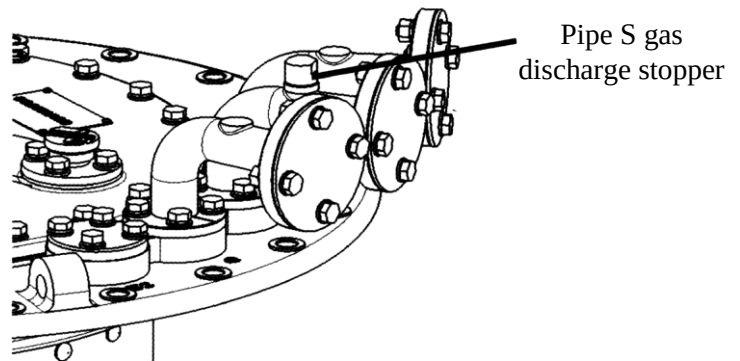

Figure 59 Remove the bolt cap
- 1) Remove the M16 bolt cap on the pipe joint S (16mm wrench) (Figure 59).